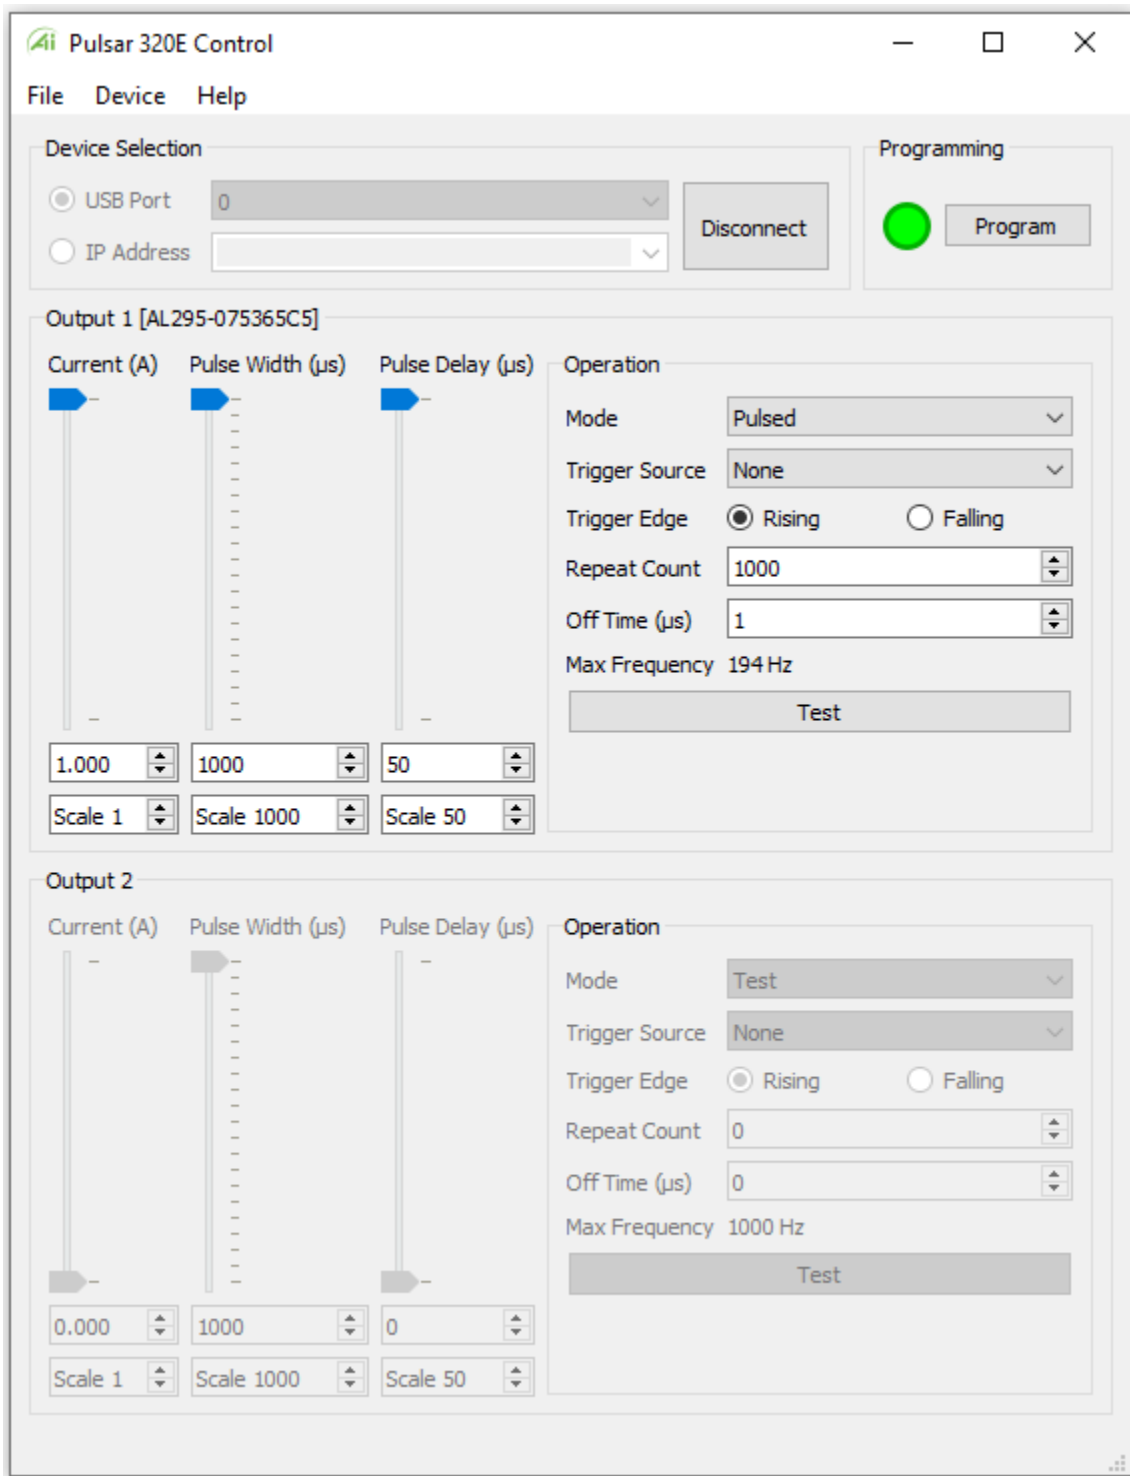

Figure 10. Pulsar Control
4.9.6 Upon Connecting to a USB port, the strobe settings window will open (Fig 10) - Grayed-out outputs mean no light is connected.